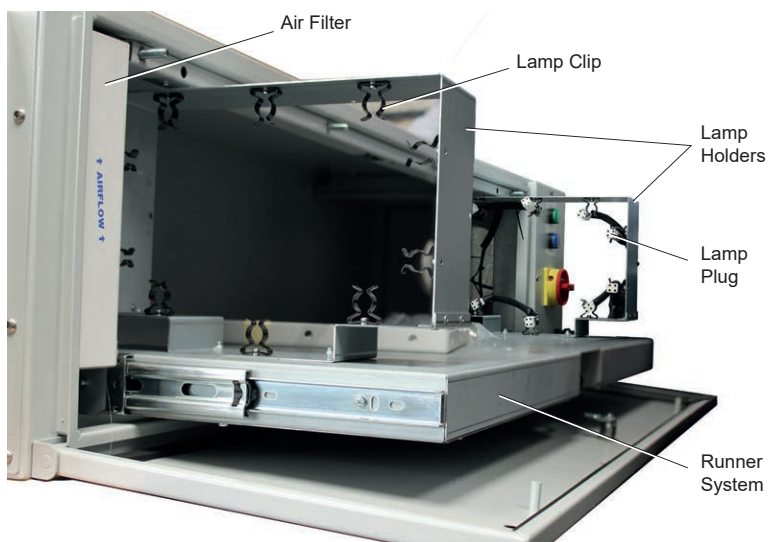

Figure 28 - Lamp Holder and Runner System
4. Clip the lamps into position (see Figure 28 above).
5. Connect the plugs to the ends of the UV lamps (see Figure 28 above).
- The Unit's mains connection terminals are located behind a control panel on the right hand side of the main chassis. This is held in place by 4No. screws. There is an internal cover, with 1No. screw, which needs to be taken off to access the connection terminal. (See Figure 28 - Lamp Holder and Runner System on page 27).